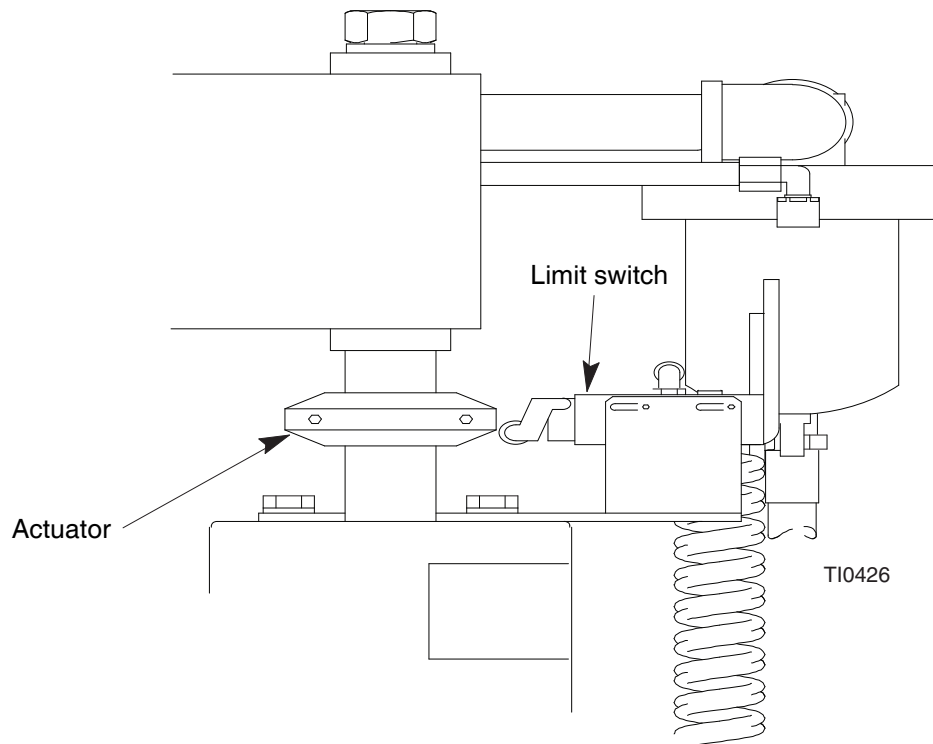

Fig. 16
Replacing Wipers (Fig. 16)
2. To replace worn or damaged wipers (412), raise the follower plate up out of the drum. Remove the drum from the base. Wipe the fluid off the follower plate. Refer to the **Drum Changing** procedure on page 27.
3. Separate the wiper joint (A) and bend back the strapping (413) covering the clamp setscrew (415). See Detail A of Fig. 16. Loosen the setscrew, pull the end of the strapping through the clamp (414) and remove the wiper.
4. Slide the strapping (413) through the new wiper (412). Slide the clamp (414) onto the new strapping and bend the strapping back approximately 3 in. (76 mm). Insert the strapping through the clamp a second time. See Detail B of Fig. 16.
5. Install the wipers on the follower plate. Position the wipers so that their joints (A) are 180° apart.
NOTE: You will need the special banding tool (C) shown in Detail C of Fig. 16 to tighten the strapping. Order Part No. 168092 Banding Tool.
6. Grip the strapping (413) with the tool (C) as shown. With your thumb on the gripper lever (E), turn the tool handle (F) clockwise to apply tension.